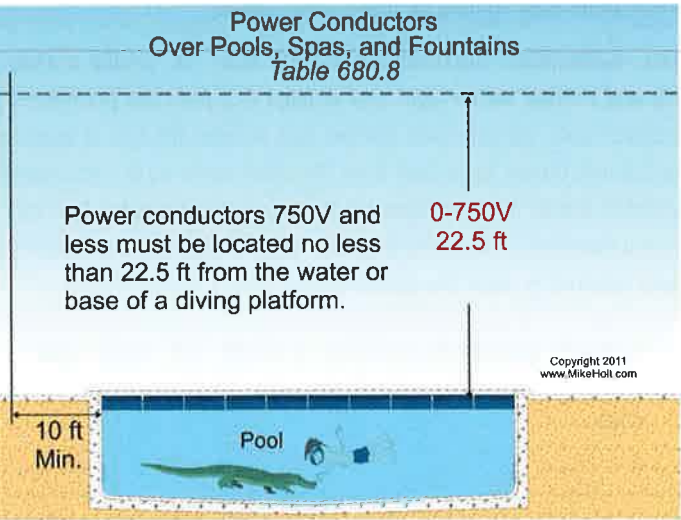

Figure 680-4
(A) Overhead Power Conductors. Permanently installed pools, stor-able pools, outdoor spas, outdoor hot tubs, fountains, diving struc-tures, observation stands, towers, or platforms must not be placed within the clearances contained in the *NEC*, Table 680.8. **Figure 680-4**